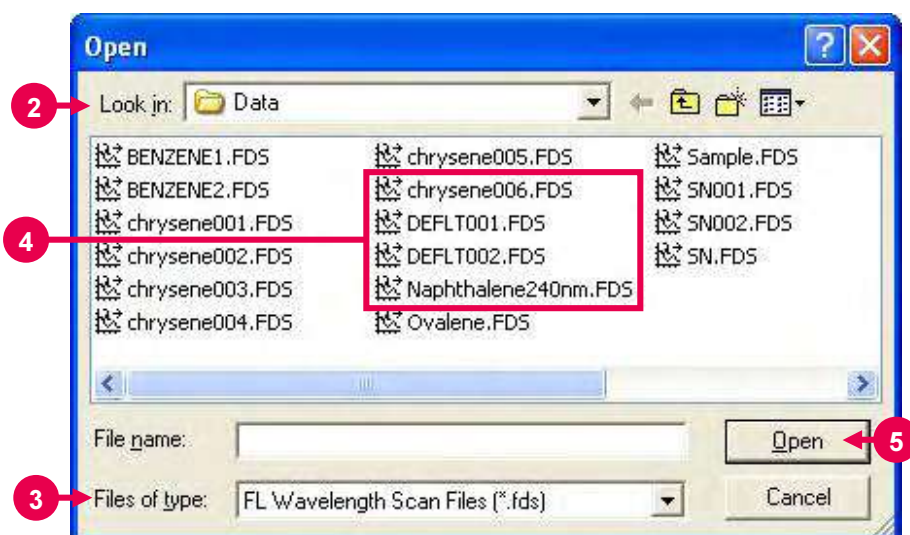
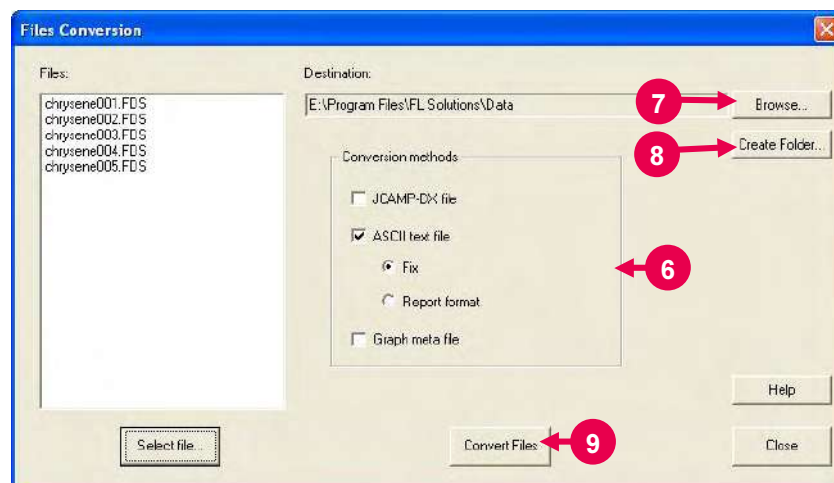
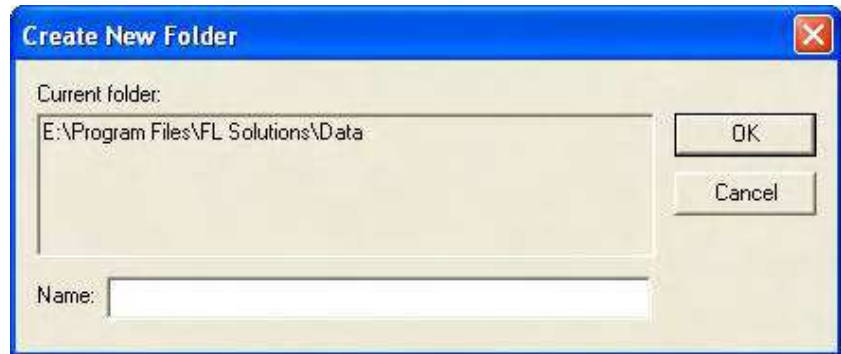

Fig. 8-27
Fig. 8-28
Fig. 8-30
A window as in Fig. 8-27 will appear.
- (3) Specify the folder of files to be converted in “Look in.” (Refer to ② in Fig. 8-27.)
- (4) Select a file type in “Files of type.” (Refer to ③ in Fig. 8-27.)
- (5) Select files. (Refer to ④ in Fig. 8-27.)
- (6) After completion of selection, click **Open**. (Refer to ⑤ in Fig. 8-27.) The Convert Files window will appear. The selected files are set in the Source file list as shown in Fig. 8-28.
- (7) Select a file format after conversion in “Conversion methods.” (Refer to ⑥ in Fig. 8-28.) You can select two or more formats for simultaneous conversion.
- (8) Specify a folder for saving the converted files.
When folders exist, the Browse for Folder dialog box appears as shown in Fig. 8-29 by clicking the **Browse** button. (Refer to ⑦ in Fig. 8-28.) Specify a folder in this dialog box and click the **OK** button.
When there is no folder, the Create New Folder dialog box appears as shown in Fig. 8-30 by clicking the **Create Folder** button (refer to ⑧ in Fig. 8-28). Enter a new folder name in "Name" and click the **OK** button. A new folder will be created.
- (9) Click the **Convert Files** button (refer to ⑨ in Fig. 8-28) for file conversion.